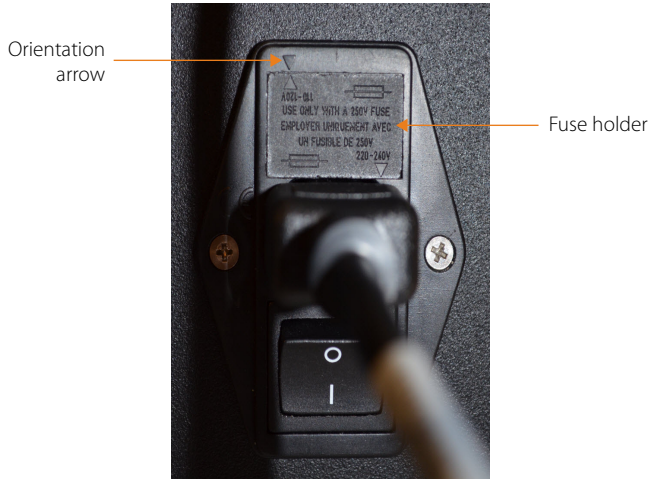
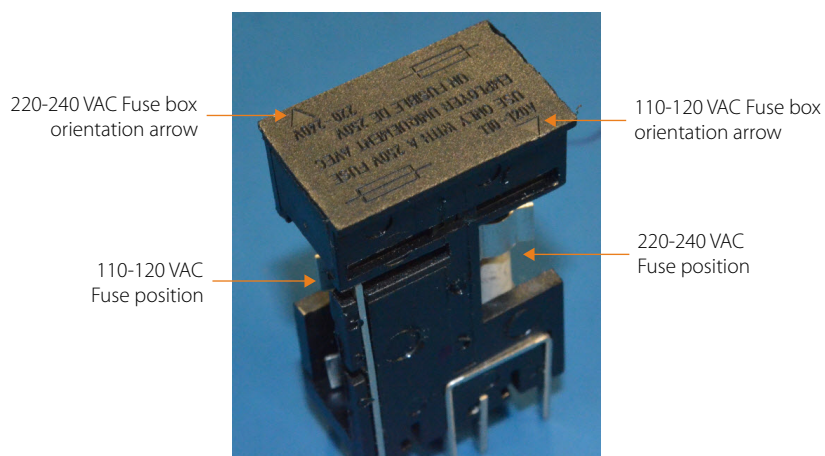

Figure 10-12: Fuse holder in power entry module.
Figure 10-13: Fuse position in fuse box.
5. There are two fuse positions in the fuse box. Insert a new 2A time lag high capacity 250 VAC fuse (P/N 011-800), making sure to insert it in the correct position for your laboratory voltage as shown in Figure 10-13.
6. Reinsert the fuse holder, making sure to align the arrow on the fuse box associated with the correct voltage for your laboratory (110-120 VAC or 220-240 VAC, shown in Figure 10-13) with the orientation arrow on the power entry module (Figure 10-12).